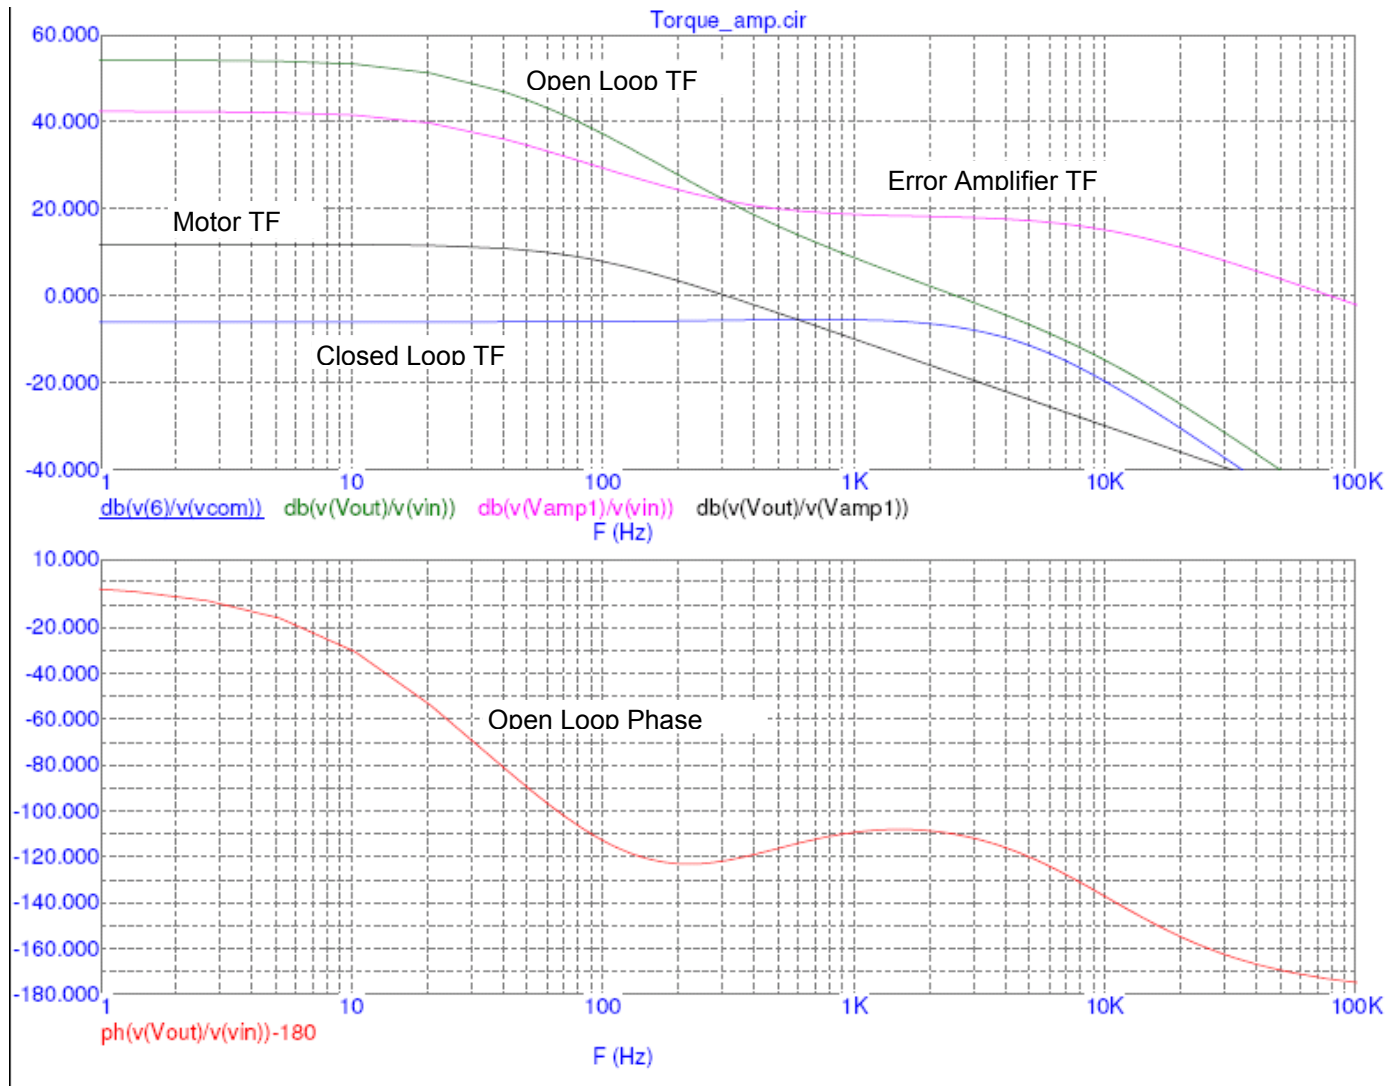

Fig.12 : Current Loop Bode Plots
Fig 12 shows the current loop Bode Plots.
- 10- **Tenth step**, Plot the current loop Bode Plots as shown in Fig. 12.